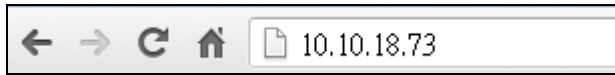

Figure 4-5: IEI iMAN Web Address
Step 2: On the remote management console, open a web browser. Enter the managed system IP address in the web browser (**Figure 4-5**).